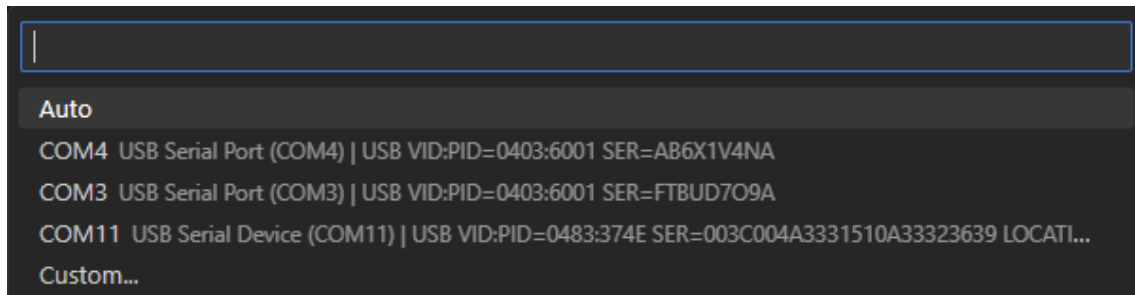

Figure 21. Command Palette showing detected serial ports
2. This will open a command palette at the top of VS Code containing a list of detected serial ports (Figure 21). Choose the one required for your evaluation board.